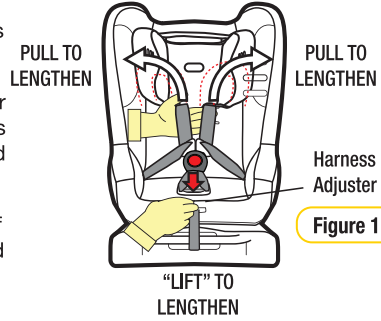

Figure 1
- Step 2:** To lengthen the harness “LIFT” the harness adjuster (refer Figure 1) whilst grasping both shoulder harness straps and pulling. Ensure shoulder straps are pulled equally on each side.